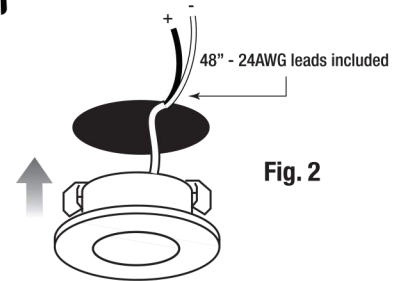

Fig. 2
1. SlimPuck Minis provide niche illumination. Perfectly suited for small spaces, installation is as simple as drilling a 1" hole (**Fig. 1**), feeding wires through that hole, and then pushing the puck up into the hole (**Fig. 2**). Mounting springs will capture the puck and hold it snugly.